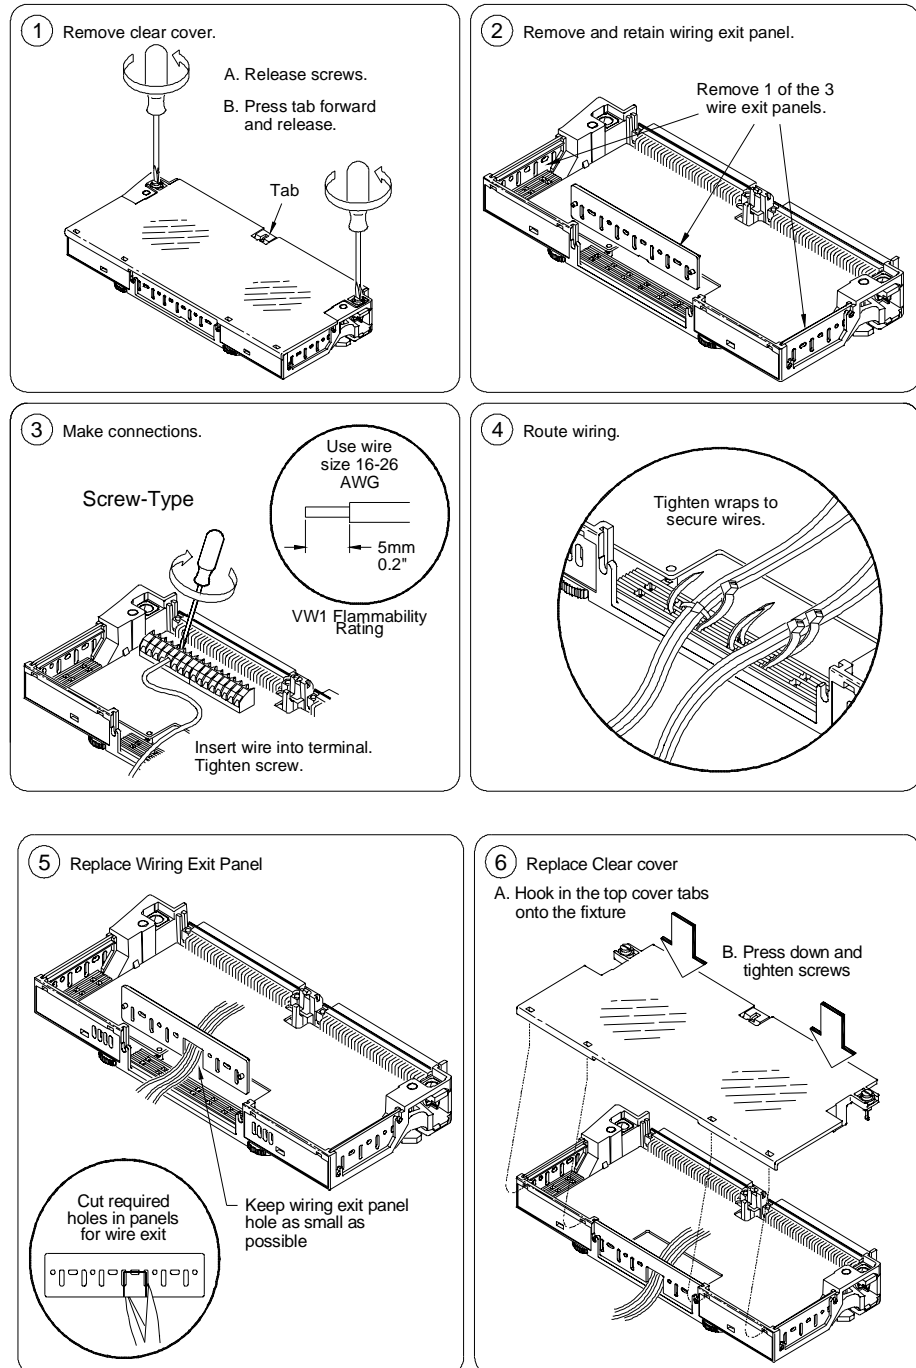

Figure 1-10. Wiring the Terminal Module
User wiring to the Relay Matrix Switch modules is to the High (H) and Low (L) connections on terminal module. Figure 1-10 gives guidelines to wire the terminal modules. Maximum terminal wire size is No. 16 AWG. Wire ends should be stripped 6mm (0.25 in.) and tinned. When wiring all channels, use a smaller gauge wire (No. 20 - 22 AWG). The expansion connectors allow you to create larger matrices. See "Creating Larger Matrices".